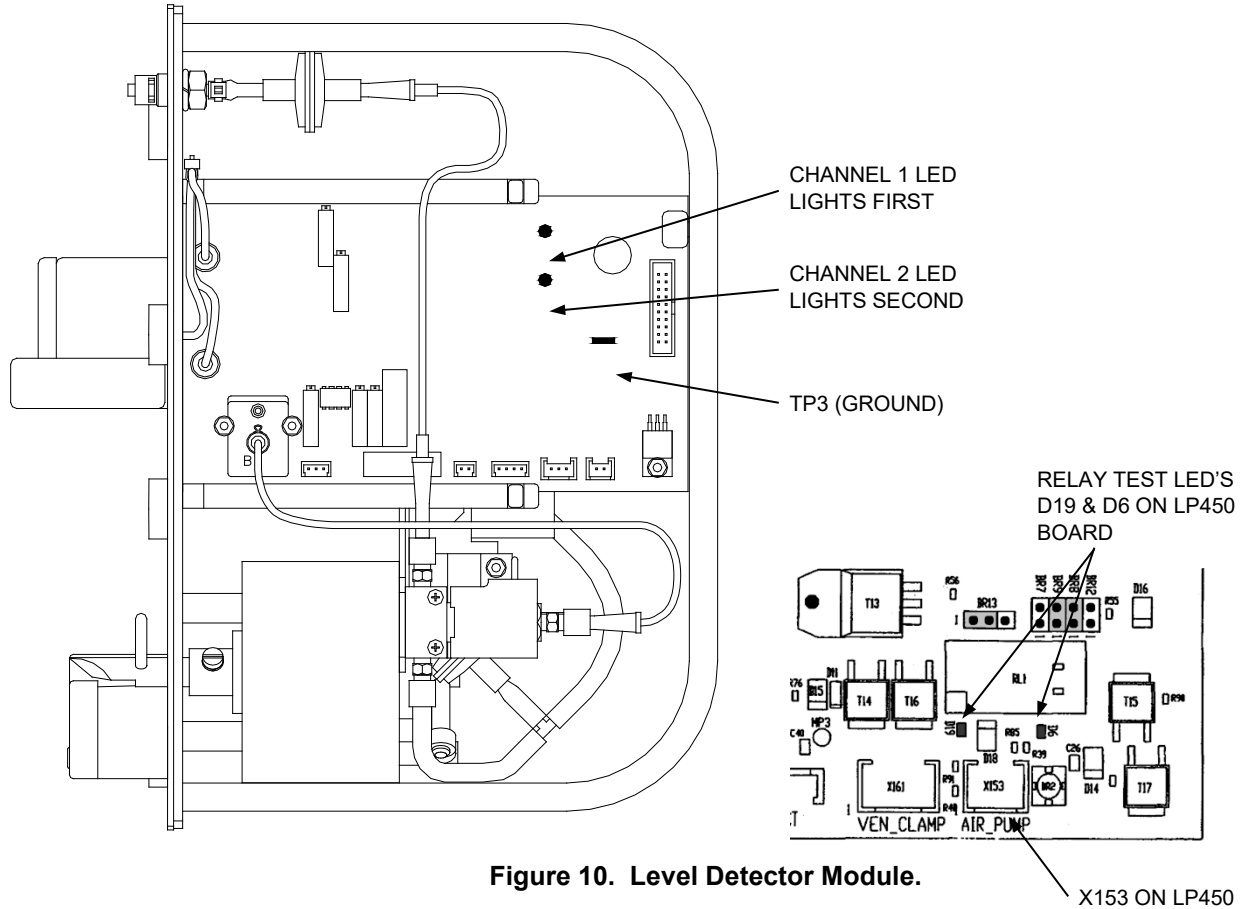

Figure 10. Level Detector Module.
3. Position the Level Detector so you can watch the Channel 1 and Channel 2 LED's on the circuit board (See Figure 10).
- 2 Locate the relay test LED's D6 and D19 on the LP450 board (see Figure 10).